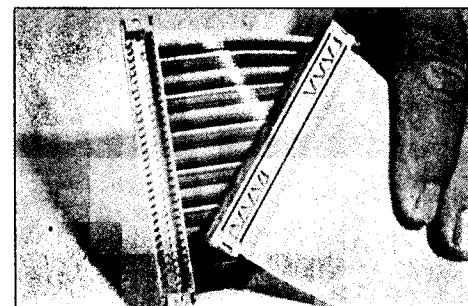

figure 9
- c) Cover retainers are fully engaged with the connector body. (fig. 9)